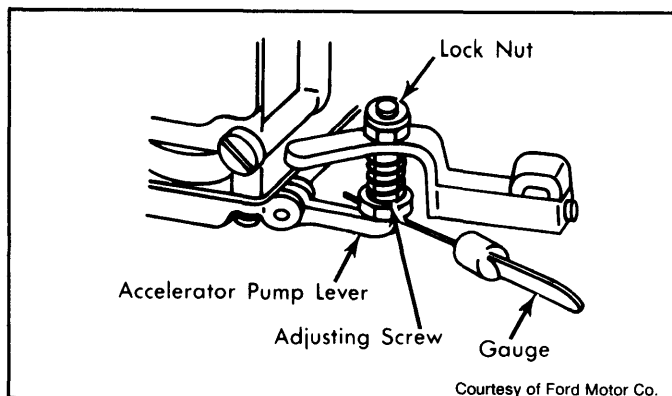

Fig. 3: Accelerator Pump Lever Adjustment
1) Open throttle valves wide open. Using a feeler gauge, measure specified clearance between the lever adjustment screw head and pump arm with the pump arm manually open. See Fig. 3.